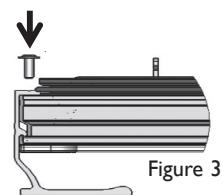

Figure 3
- Screw the three screws back on (figure 3).